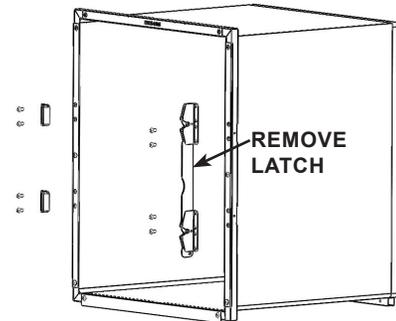

FIGURE 3.10 - Latch Assembly Removal
STEP 3: Remove the latch assembly from the right side of the cage frame by removing the screws. See FIGURE 3.10